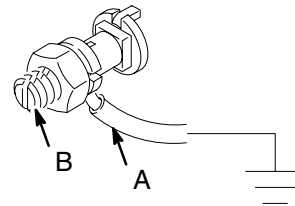

Fig. 1
**To ground the agitator**, connect one end of the ground wire (A) to the ground connector (B) on the rim of the drum cover. See Fig. 1. Connect the other end of the ground wire to a true earth ground.